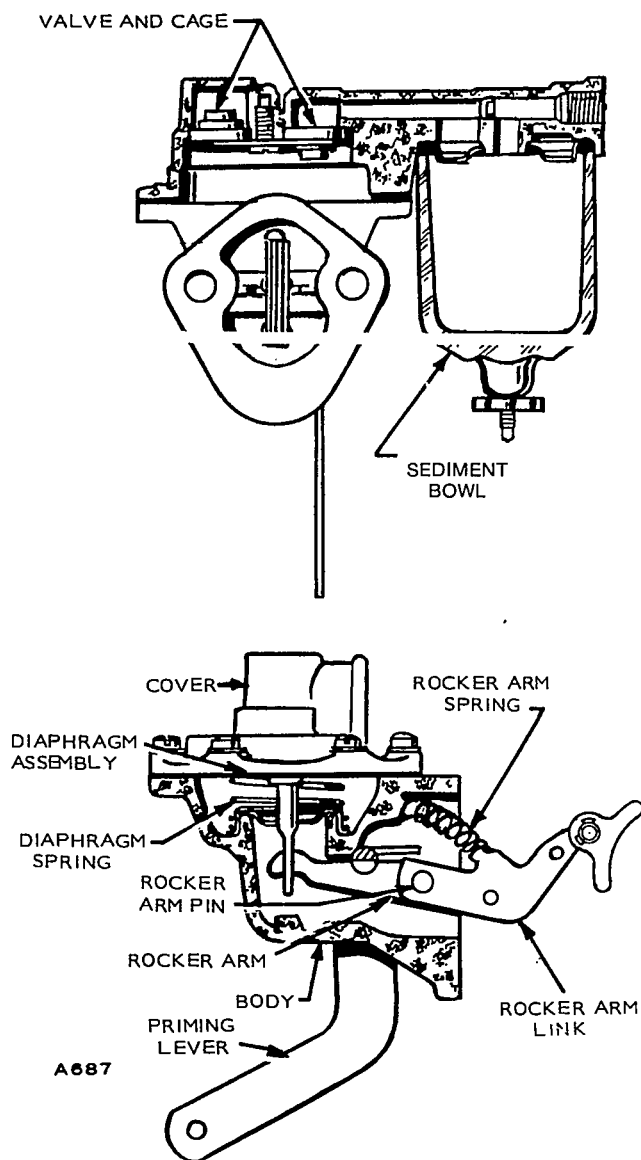

FIGURE 9. FUEL TRANSFER PUMP
Low pressure with little or no pressure leak after pumping stops indicates a weak or broken spring or worn linkage, and, in most cases, the pump should be replaced. Figure 9 shows the fuel transfer pump.
Repair: Transfer pump failure is usually due to a leaking diaphragm, valve or valve gasket, Figure 9. A kit is available for replacement of these parts.
2. Insert link and rocker arm into body and hook it over diaphragm pull rod. Align rocker arm with rocker arm pin hole and drive in pin. The priming lever must be in position shown in Figure 9 when installing rocker arm.